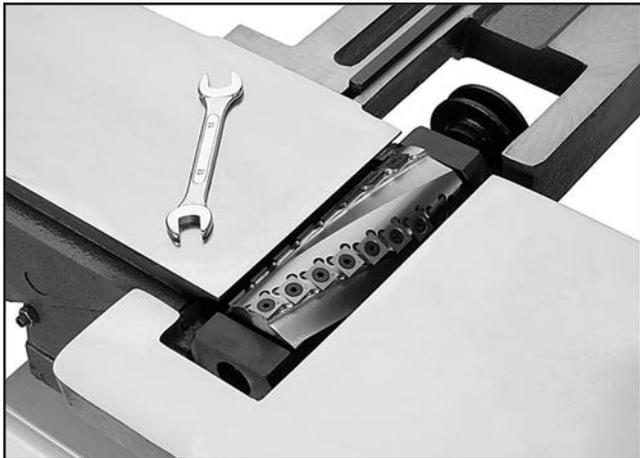

Figure 8. Example of spiral cutterhead installed.
16. Install the cutterhead (see **Figure 8**) with the lock washers and hex nuts removed in **Step 5**.